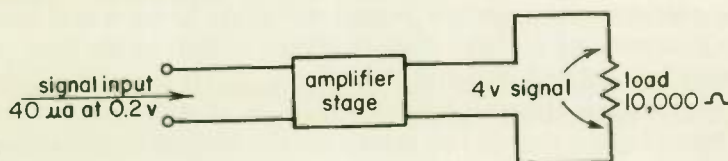

Fig. 4
11. It is particularly important in studying transistors to distinguish between current gain, voltage gain, and power gain. The amplifier stage of Fig. 4 has a voltage gain of (a) _____, a current gain of (b) _____, and a power gain of (c) _____.